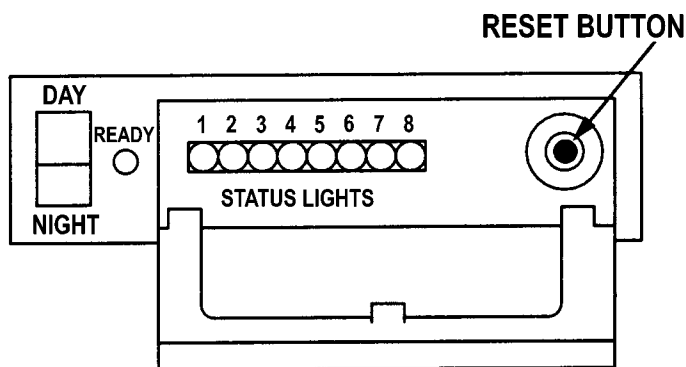

Figure 9
- READY LIGHT (stand-by condition) illuminates when developer temperature and fluid levels are correct and if the film sensor is closed. The 100 PLUS is ready to process a film. If the READY LIGHT does not illuminate, check the STATUS LIGHTS behind the name plate on the face of the processor. (See Figure 9 and Status Lights p. 19)
These lights are located behind the name plate panel. (See Figure 9) Refer to these lights if there is a problem when operating the 100 PLUS. Review the lights, note whether there is light "on", light "off", or light "flashing". Then look in the Status column in the chart below for the explanation. For example, if READY LIGHT is not on and Light No. 4, Developer Level, is flashing, the chemistry level in the developer tank is low. A possible cause is an empty developer container, or a developer drain valve that is not completely closed.